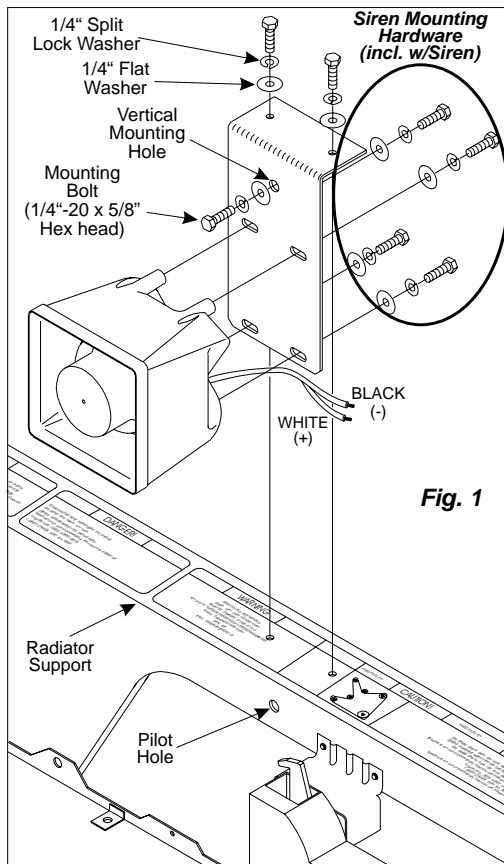

Fig. 1
4. Locate the pilot hole on the radiator support (see Fig. 1). Position the mounting bracket onto the radiator support as shown. Align the vertical mounting hole on the bracket with the pilot hole in the radiator support. Using the supplied bolt, secure the mounting bracket tightly to the radiator support. Using the bracket as a template, drill two 7/32" holes into the support through the holes in the top of the bracket.
4. Using a vise, bend the horizontal plane of the bracket so it is 90° from the lower portion of the vertical plane of the bracket (Fig. 1).